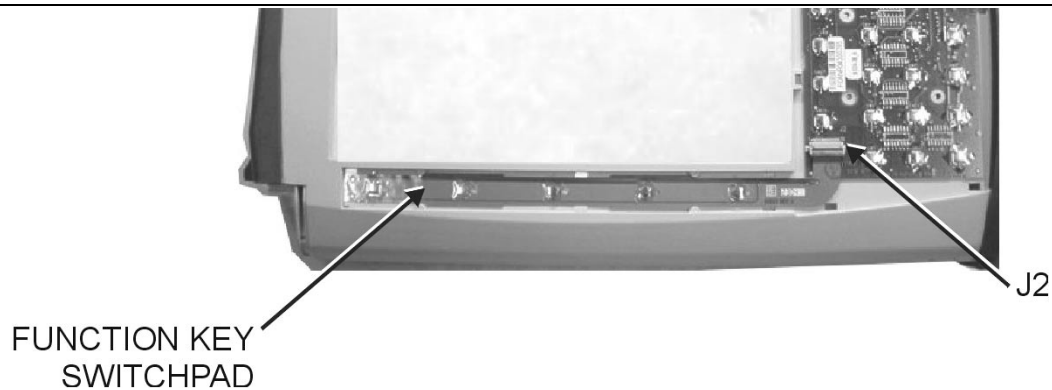

Figure 25. Function Key Switchpad
5. Disconnect the function key flexible switchpad from J2 of the keypad PCB by carefully lifting the locking tab on connector J2 to release the flexible switchpad (Figure 25).